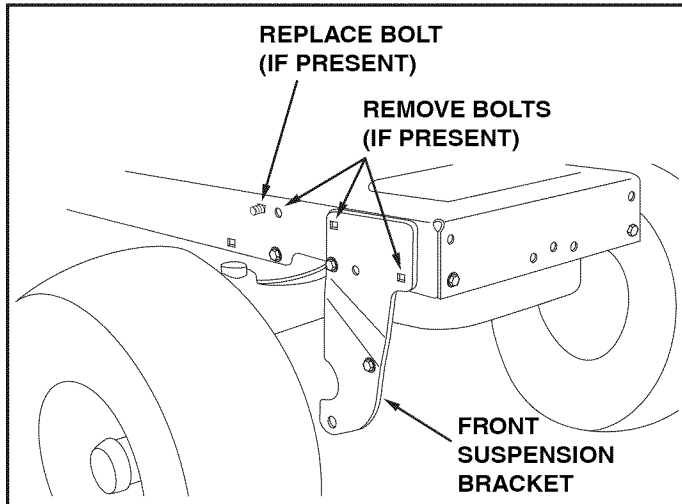

FIGURE 20 RIGHT SIDE VIEW
If your tractor resembles figure 20, go to step 21.
STEP 21: (SEE FIGURE 20)